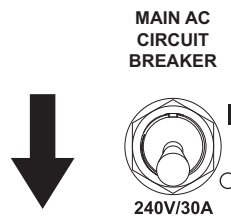

Figure 3-44. Main AC Circuit Breaker OFF (O)
- See Figure 3-44. Switch main AC circuit breaker to OFF (O).